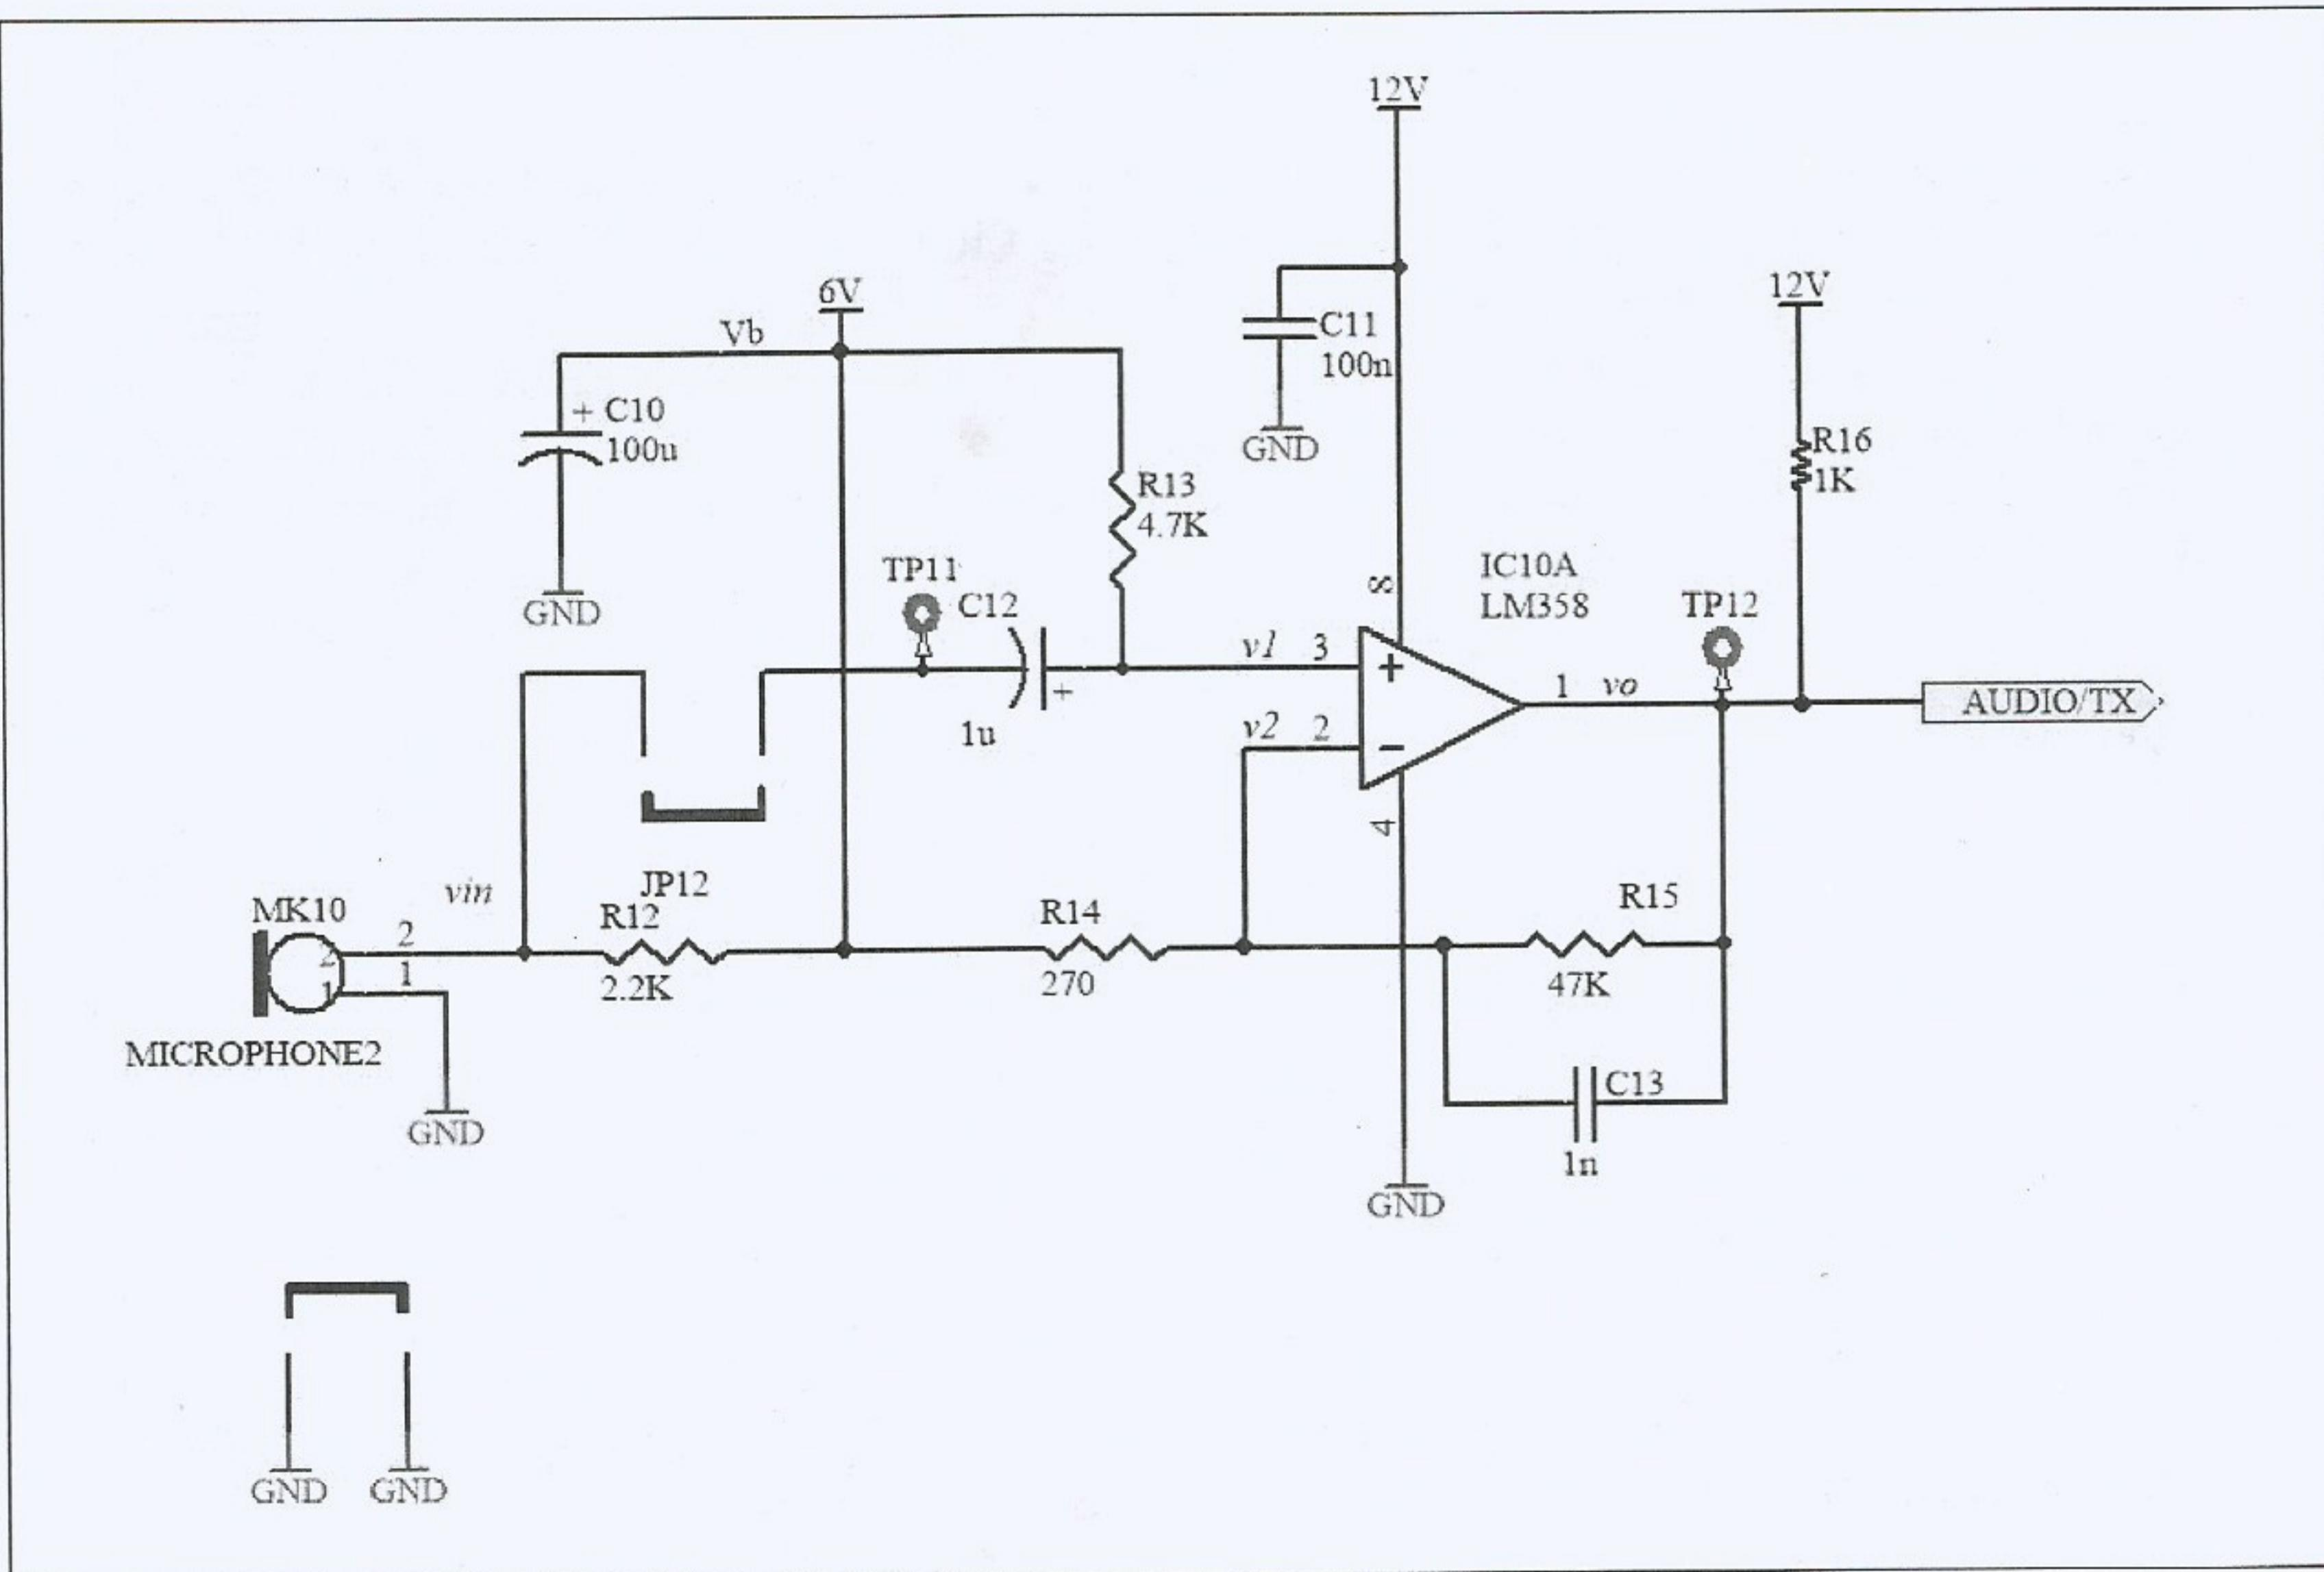

Figure 1: Schematic of microphone amplifier
1. Consider the TRC-11 microphone amplifier circuit shown in Fig. 1, making use of one of the two OPAMPS in LM358 integrated circuit. Since the OPAMP operates with a single supply voltage, the input DC voltages of the OPAMP should be shifted to a voltage somewhere between $V_{CC}=+12V$ and GND. For this purpose, we use the regulated voltage, +6V. Therefore, +6V acts like a ground, +12V acts like the positive supply, and GND acts like the negative supply of the OPAMP.